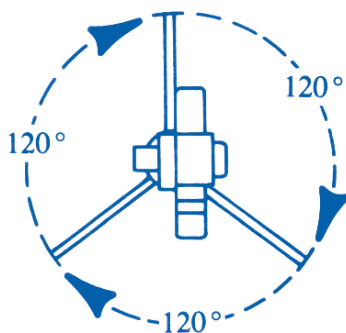

Figure 5
- Be sure the legs are equidistant from one other (Figure 5).